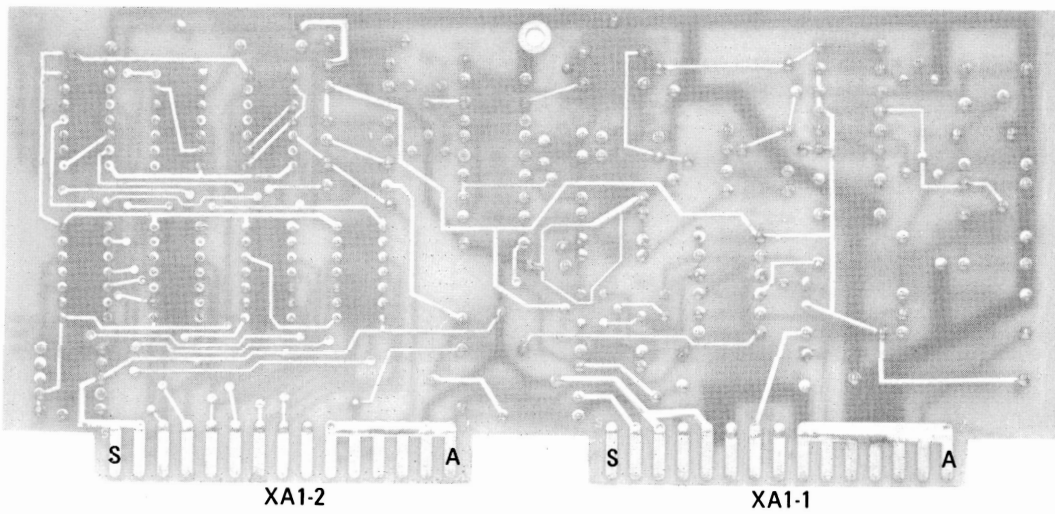

Figure 8-3. Printed Circuit Board Connector Identification
**8-39. Servicing Aids on Printed Circuit Boards.** Servicing aids on printed circuit boards include test points, transistor and integrated circuit reference designators, adjustment callouts and assembly stock numbers. Figure 8-3 illustrates the proper method to identify pin numbers on the circuit boards.